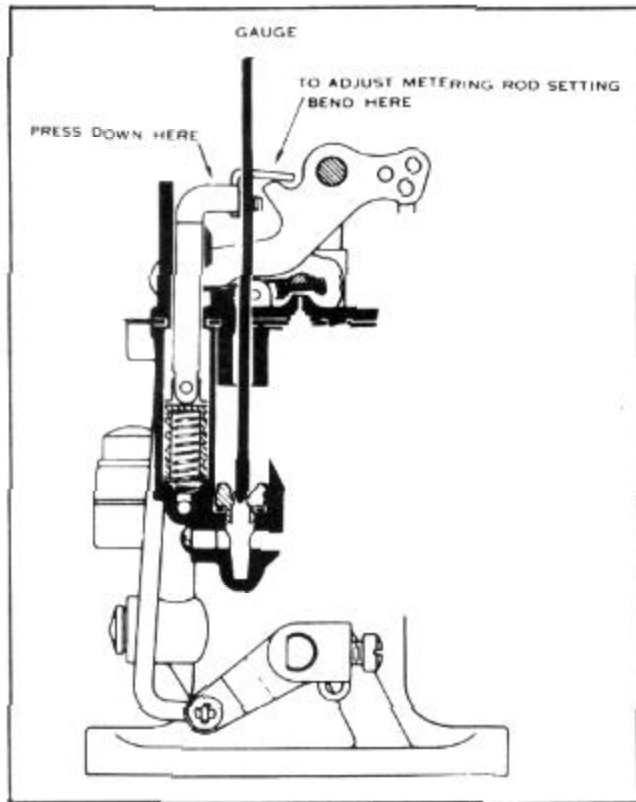

FIGURE 31
2. Insert metering rod gauge, J-1265 (Carter No. T-109-102). Hold gauge vertical and be sure gauge is seated in metering rod jet, Figure 31.